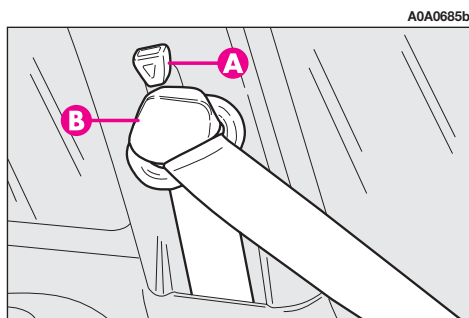

fig. 36
To adjust, press button (A-fig. 36) and lower or raise the grip (B).